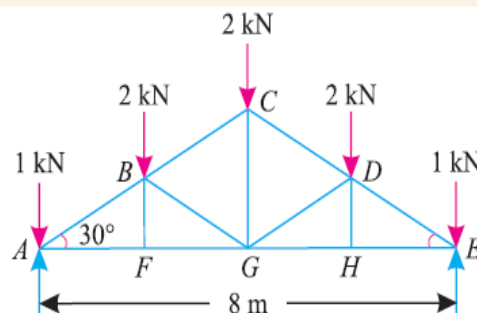

fig.33
9. A king post truss of 8 m span is loaded as shown in Fig.33. Find the forces in each member of the truss and tabulate the results.